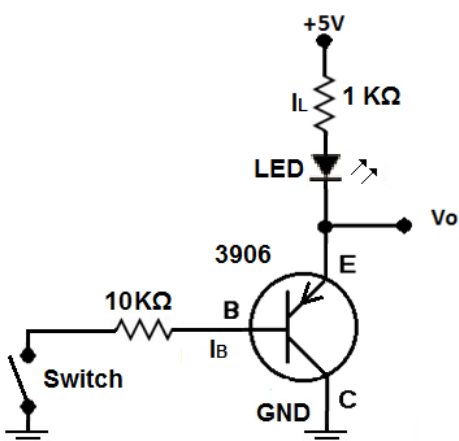

Figure 8.3: PNP transistor as switch.
3. Repeat steps 1 and 2 for figure 8.3.